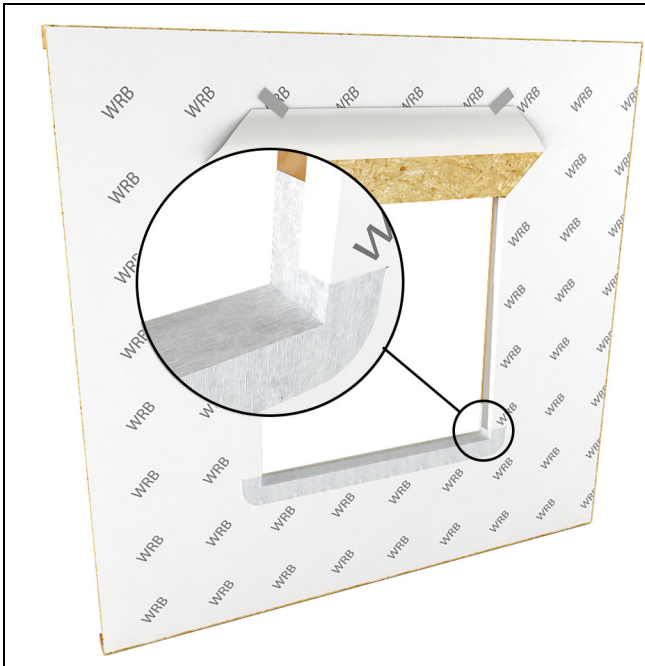

Figure 9
6. Wrap side flaps to the interior and staple in place about 1 1/2" (38) from the interior edge of the opening. Cut the excess off near the staple so that a 1" - 1 1/2" (25-38) strip of bare wood is exposed. Tape this edge with seam seal tape. See Figure 9.